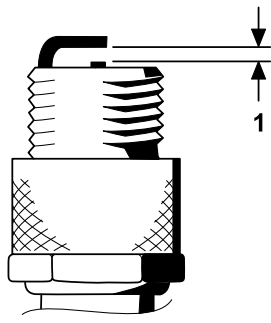

Figure 36
4. Set the air gap between the center and side of the electrodes at 0.76 mm (0.030 inches) as shown in Figure 36.